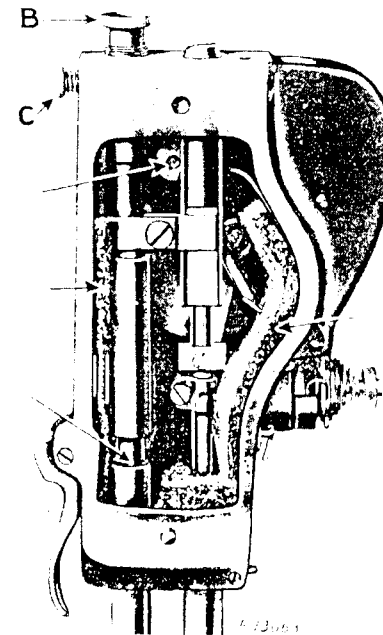

Fig. 5. End View of Machine. Showing Oiling Points
The pressure of the presser foot on the material is regulated by the thumb screw (B, Fig. 5) at the top of the machine. To increase the pressure, loosen the set screw (C, Fig. 5) at the back of the machine and turn the thumb screw (B) downward. To decrease the pressure, turn the thumb screw (B) upward. When the required amount of pressure is obtained, tighten the set screw (C) at the back of the machine.